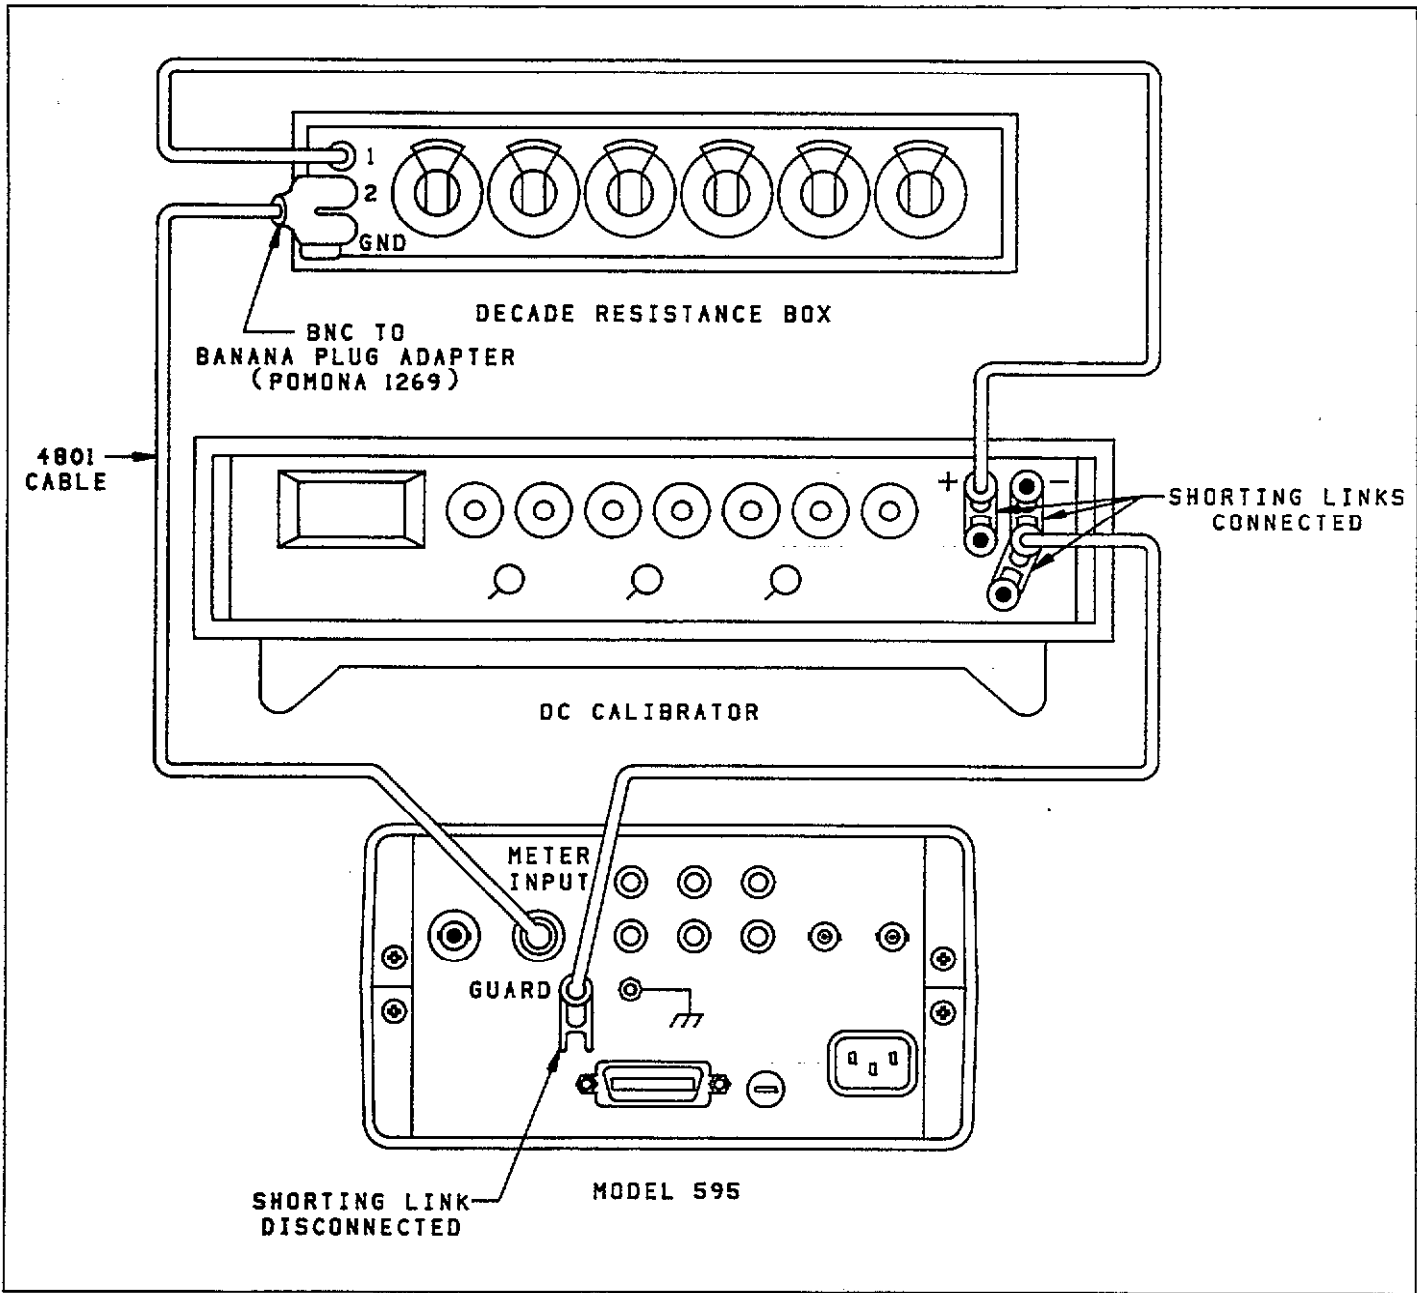

Figure 6-2. Setup for Current Verification (200nA to 200 $\mu$ A Ranges)
3. Connect the DC calibrator and decade resistance box to the instrument as shown in Figure 6-2.